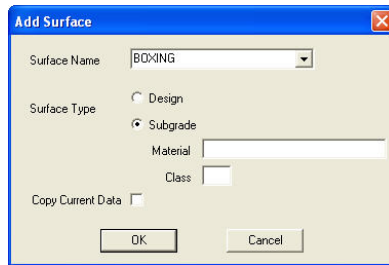

Figure 18-45. Add Surface Dialog Box
The *Add Surface* dialog box appears (Figure 18-45).
1. click **CrossSection ▶ Add Surface**. The *Add Surface* dialog box appears (Figure 18-45 on page 18-51).